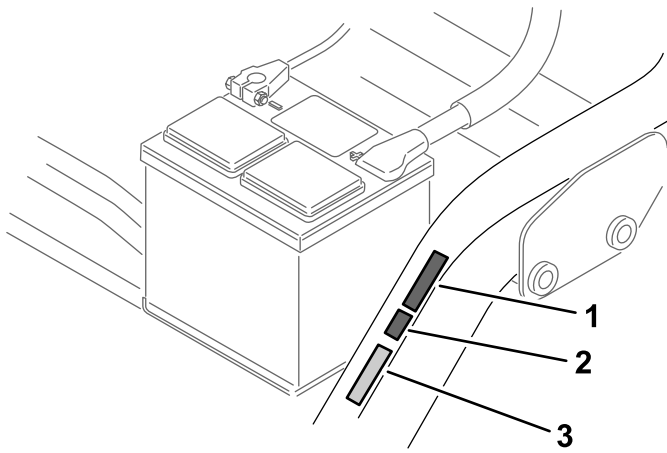

Figure 17
- Apply the CE mark decal next to the serial plate (Figure 17).
- Apply the CE production year decal next to the CE mark decal (Figure 17).